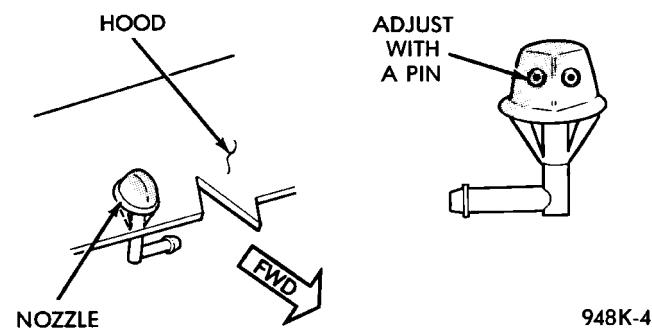
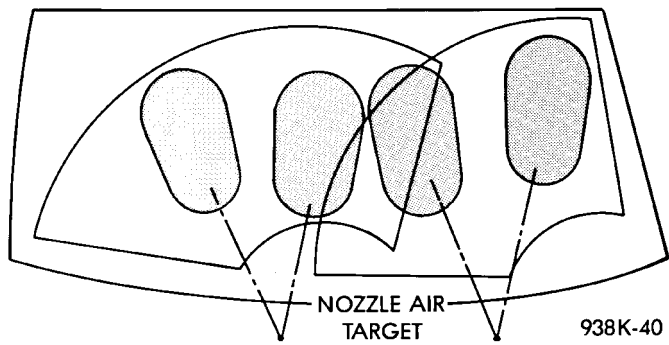

Fig. 1 Windshield Washer Nozzle
Fig. 2 Windshield Washer Pattern
This model is equipped with two hood mounted washer nozzles. Each nozzle emits two streams into the wiper pattern (Fig. 1). If the nozzle performance is unsatisfactory they can be adjusted. To adjust insert a pin into the nozzle ball and move to proper pattern (Fig. 2). The right and left nozzles are identical.
- (1) Disconnect washer fluid hose at the nozzle.
- (2) Using a needle nose pliers, squeeze together the locking tabs on the nozzle (Fig. 1).
- (3) Remove nozzle.